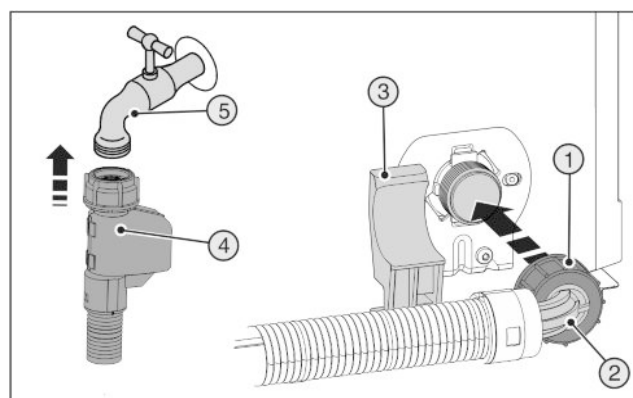

Fig. 21
- ▶ Connect the straight end of the hose Fig. 21 (4) to the stopcock Fig. 21 (5).